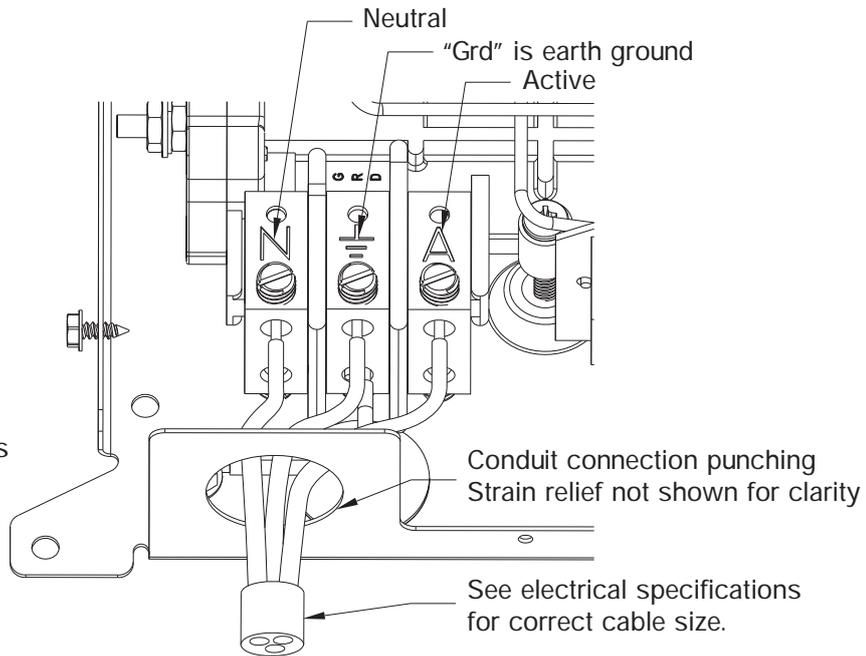

Figure 2 Wiring Connection
6. Connect wiring. Attach ground wire to center terminal and active, neutral to outer terminals (See Figure 2 page5)